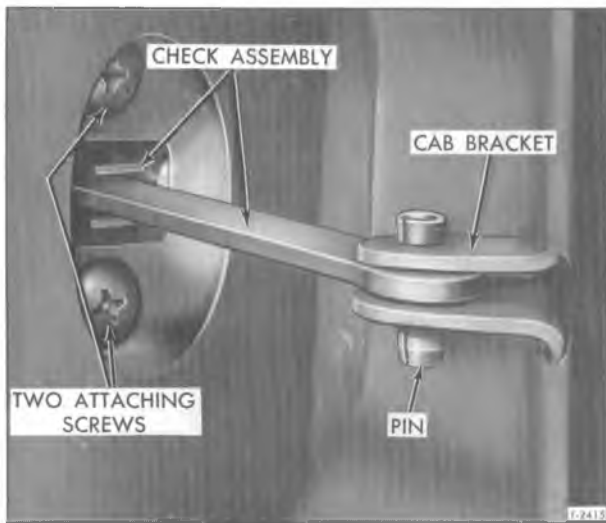

Figure 11—Door Check Installed
1. Using a small punch, drive spring pin up from bottom of strap bracket (fig. 11).